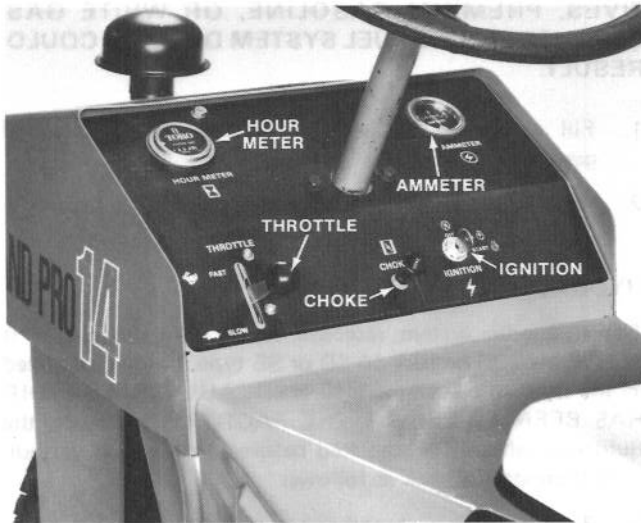

Figure 7
**IGNITION SWITCH** — Insert key into the switch; turn clockwise as far as possible to start engine. As soon as engine starts, release key. Remove the key when the SAND PRO is not in use, to prevent use by unauthorized persons (Fig. 7).
**AMMETER** — The ammeter indicates the rate of battery charge or discharge (Fig. 7).
**HOUR METER** — Indicates the total hours the engine has been operated (Fig. 7).